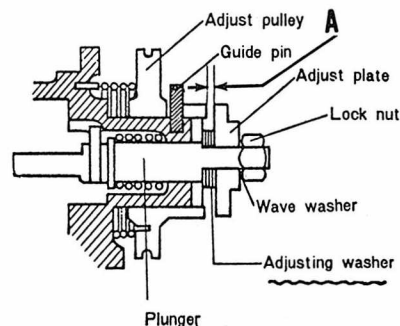
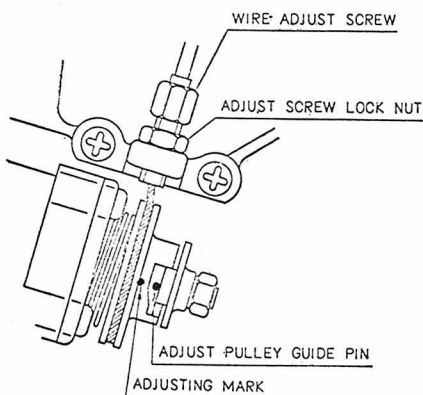

Fig. Y1-6—Clearance (A) should be 0.008-0.010 inch for all models.
Fig. Y1-8—The adjusting mark and guide pin should be aligned as shown when throttle is half open.
just throttle cable to  $\frac{1}{8}$ -inch slack at hand lever end. Check minimum plunger stroke by turning starter plate (16) until clearance (A—Fig. Y1-6) between adjusting pulley and adjusting plate is at its minimum. Clearance (A) should be 0.008-0.010 inch. If clearance is incorrect, add or deduct adjusting washers shown in Fig. Y1-6. Synchronize pump and throttle cables as follows: Open throttle half way using hand control until the "O" on carburetor throttle slide is at top of throttle bore. Adjust pump cable until pulley guide pin and mark align as shown in Fig. Y1-8. Open throttle fully and make certain guide pin is not touching end of notch.